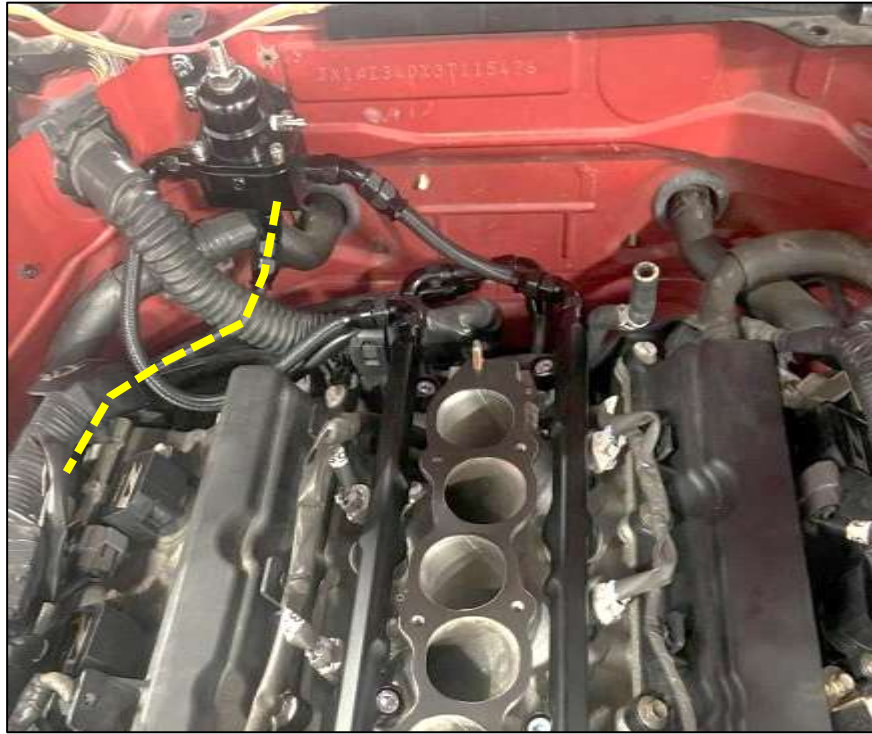

Figure 49
20. Install either end of the **22098-J6** line onto the bottom side of the Z1 Regulator and route towards the Factory Feed Line on the passenger side frame rail. *Figure 49.*